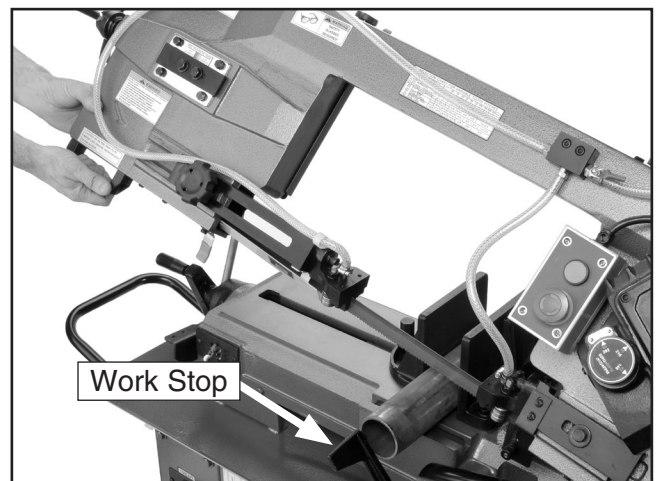

Figure 27. Typical proper starting position.
- Let the blade reach full speed before engaging the workpiece. Never start a cut with the blade in contact with the workpiece (see **Figure 27**).